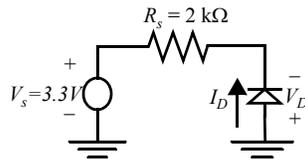

Figure 0.2 Series diode circuit
2. [M, None, 3.2.3] For the circuit in Figure 0.2,  $V_s = 3.3\text{ V}$ . Assume  $A_D = 12\ \mu\text{m}^2$ ,  $\phi_0 = 0.65\text{ V}$ , and  $m = 0.5$ .  $N_A = 2.5\text{ E}16$  and  $N_D = 5\text{ E}15$ .